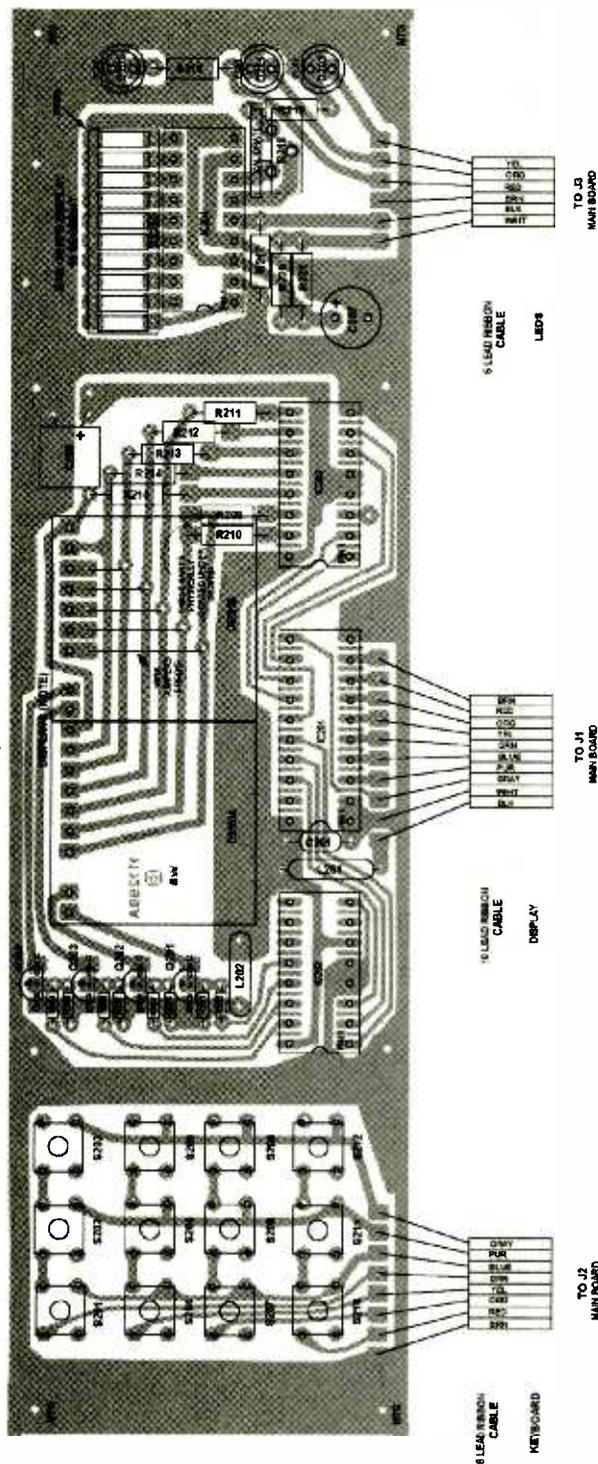
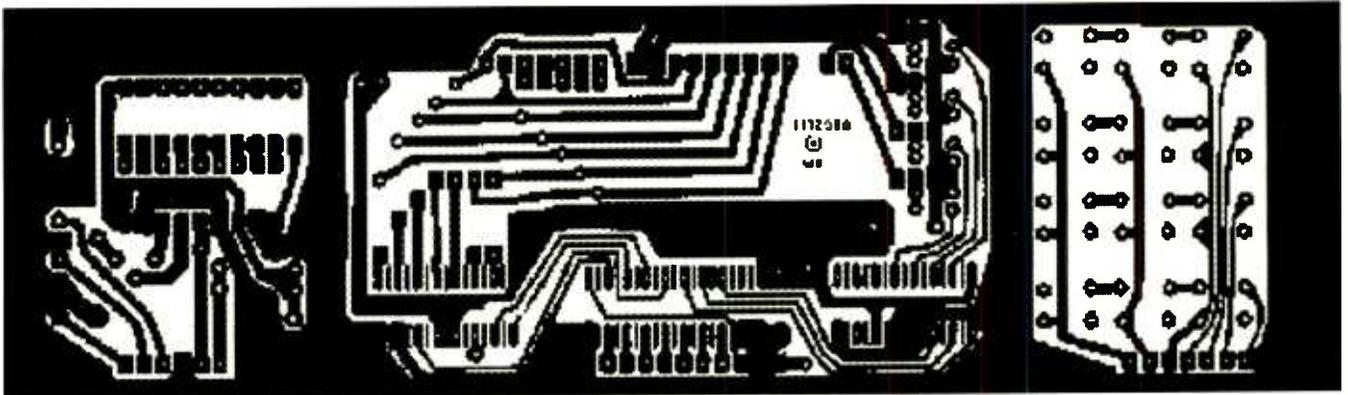

Fig. 9 This parts-placement diagram shows the display-board components' location. Pay careful attention not to apply too much stress on the cable ribbons.
Fig. 10. Here is the display-board foil pattern. The display board is exactly half the size of the main board.
**Construction Of The Display Board.** The display board consists of three separate circuits: the keypad, LED display circuitry, and the bar-graph metering and status LEDs (see Fig. 9 and Fig. 7). These should be tested in conjunction with the microprocessor section, but some initial tests can be made on this board without it. This board is single sided and the foil pattern is shown in Fig. 10.